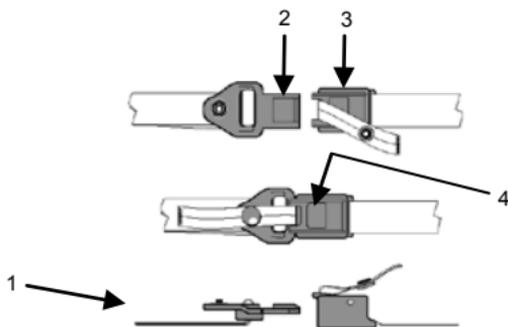
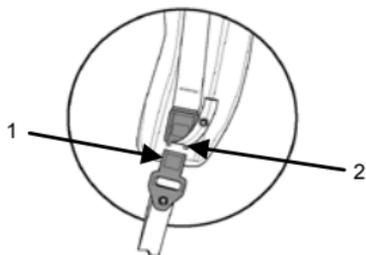

Figure 17. Quick-Release Buckle.
Figure 18. Connecting Quick-Release Buckle.
3. Re-attach the quick-release buckle (Figure 17, Item 1) by simply inserting the male portion (Figure 17, Item 2) into the female portion (Figure 17, Item 3).
4. Push male portion (Figure 18, Item 1) and female portion (Figure 18, Item 2) of the quick-release buckle until the latch tab (Figure 17, Item 4) clicks.